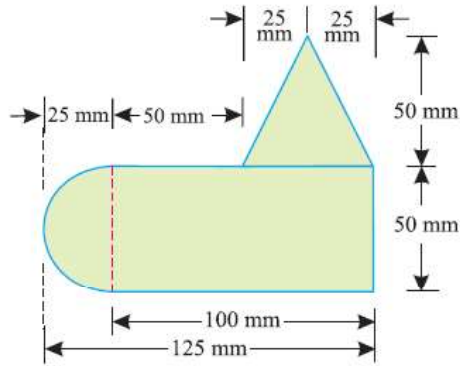

Fig.1
- A uniform lamina shown in Fig.1 consists of a rectangle, a circle and triangle. Determine the centre of gravity of the lamina.